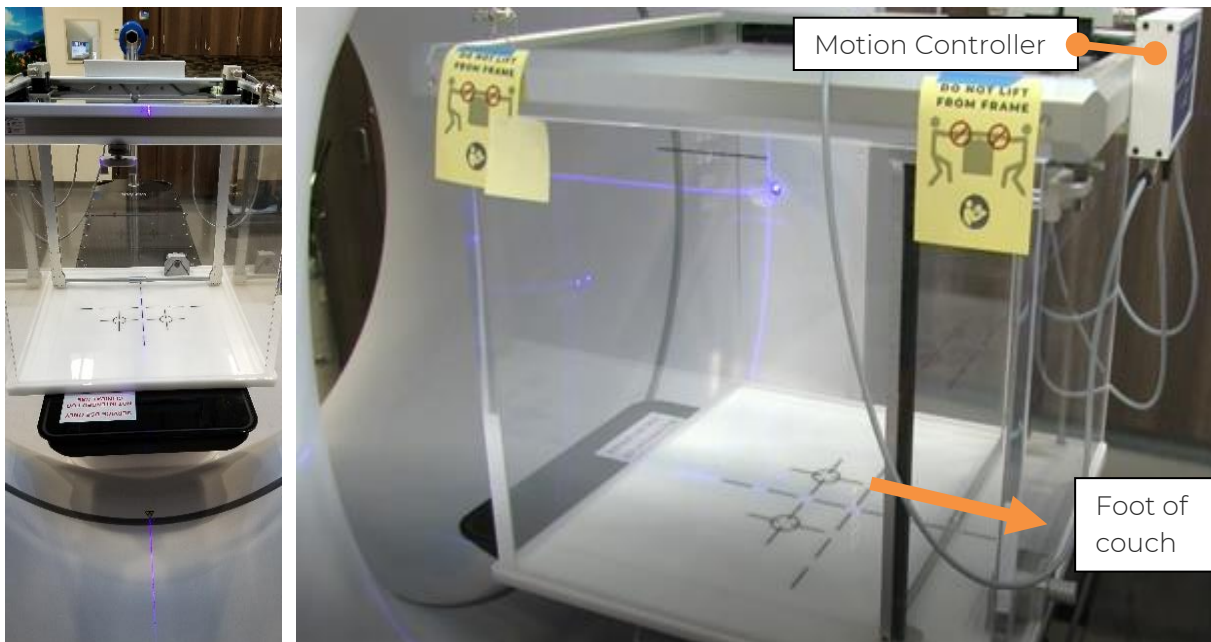

Figure 8-12: DV3D placed and oriented properly on the Halcyon Treatment couch before initial alignment at virtual isocenter.
2. Place the Varian Service Plate on top of the treatment couch to protect it from scratches, positioning about even with the upper end of the couch as shown in the left photo in Figure 8-12 below.
3. If the DoseView 3D Water Tank is already residing on top of the DoseView 3D Lift and Reservoir Cart, position them beside the patient couch, with the Motion Controller Box facing the foot of the couch. If needed, raise the Lift to the same height as the treatment couch to assist in the transfer of the empty Water Tank to the couch, positioning it about 15 cm from the head of the couch as shown in the left photo in Figure 8-12 below.